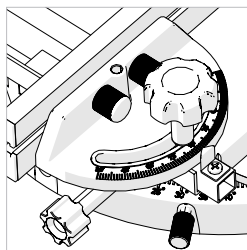

Fig. 22
- Use a #2 Phillips Head screwdriver to loosen the Angle Pointer fixing screw. **(Fig. 22)** Adjust the pointer to suit and then retighten the fixing screw.